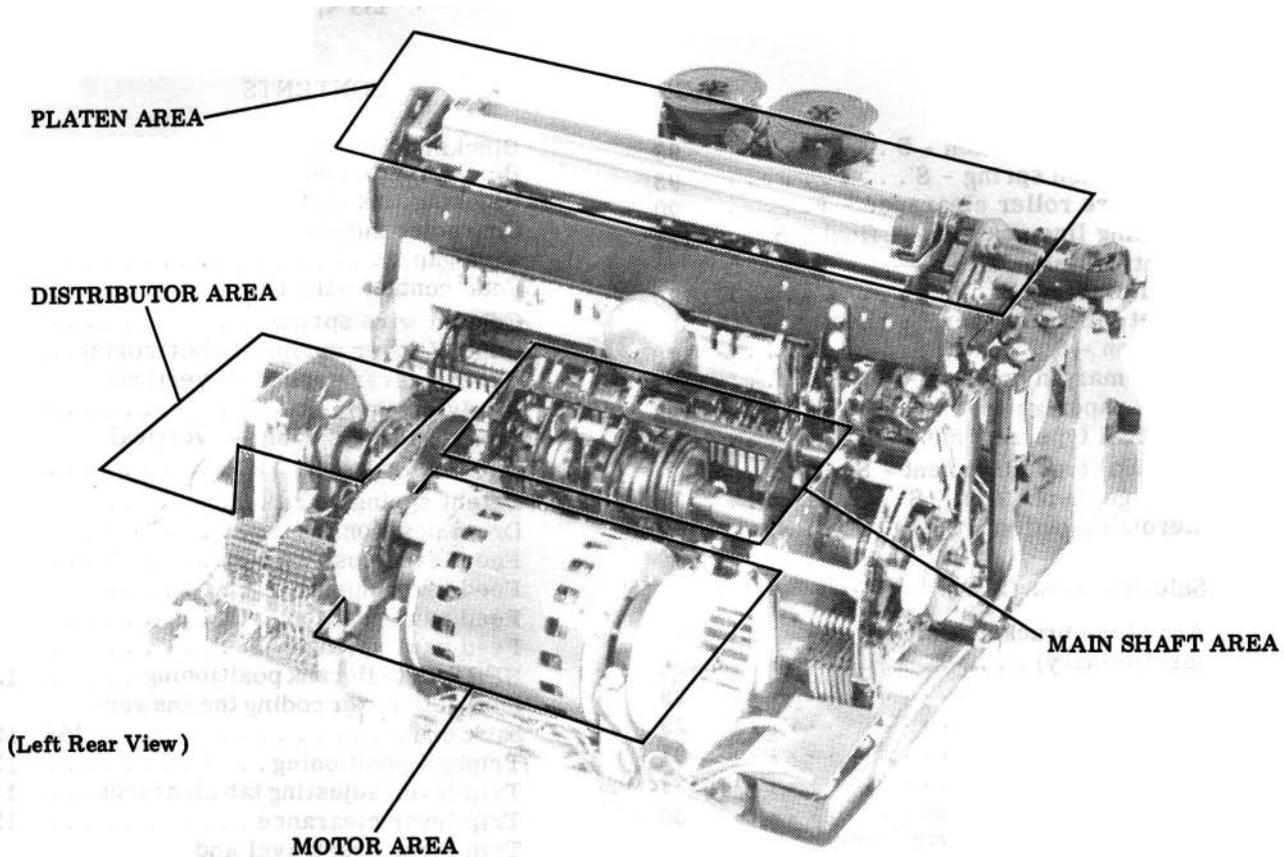

Figure 1 - Distributor, Main Shaft, Motor, and Platen Areas
1.17 To aid in physically locating the adjustments and spring tensions, the typing unit is divided into eleven areas. These areas are indicated in Figures 1 through 4 as follows: